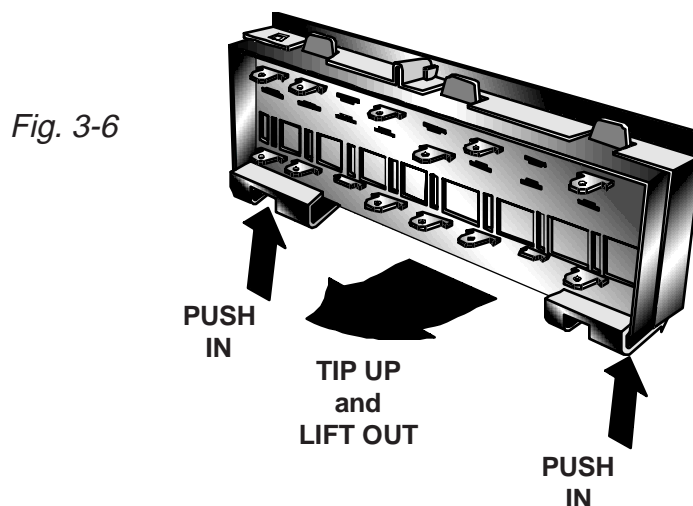

Fig. 3-6
2. Press in the the two (2) tabs at the bottom of the switch assembly. Then, lift the bottom of the switch assembly up and lift it away from the console mounting plate. (Fig. 3-6)